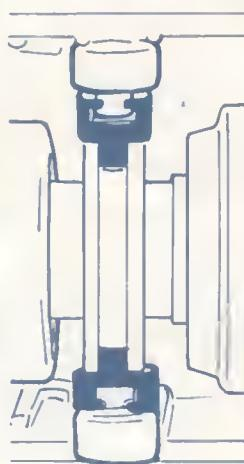

Fig. 74
**CAUTION!** After the automatic feed, planer and saw drive belts have been replaced (Figure 73) remount the selector fork: make sure that the black plastic pins are installed in the spacer groove with the opening pointing up as shown in Figure 74.